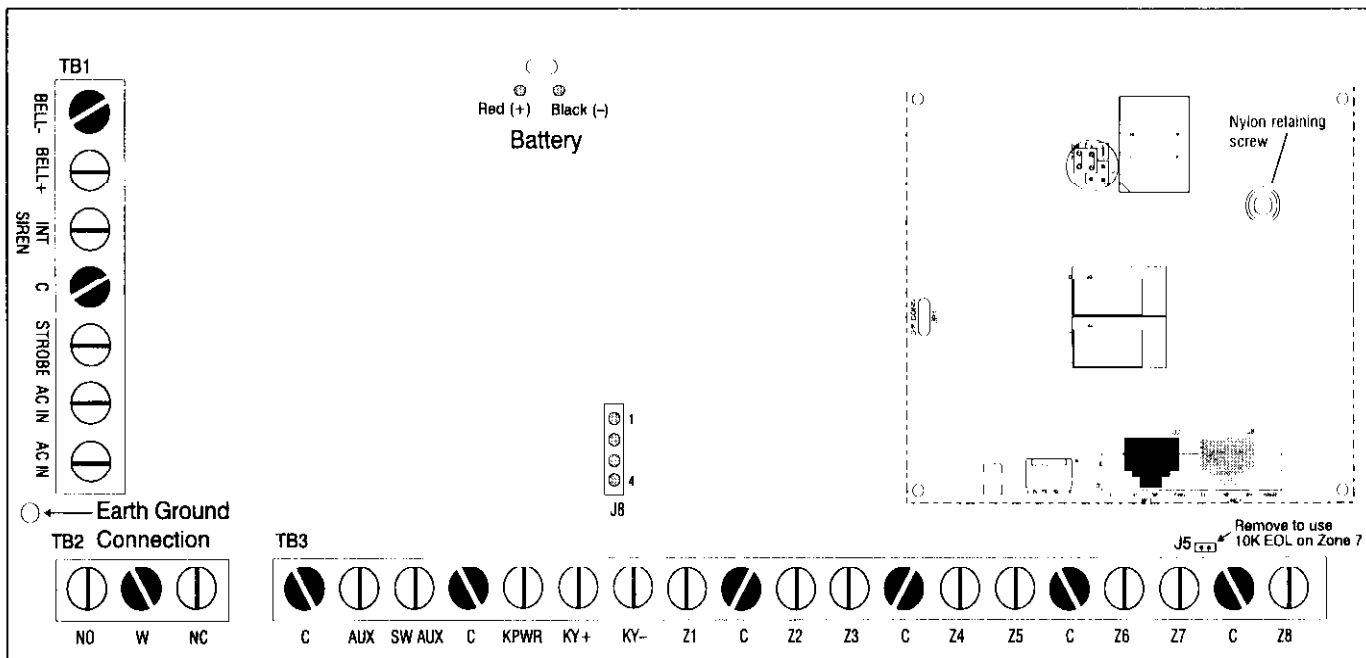

Figure 1
- Connect the earth ground wire (green with yellow stripe) to the board (see Figure 1) and cabinet. The earth ground wire will connect to the upper hinge when using the large enclosure and to the lower hinge on the small enclosure.
The Sierra S5832AU receives its power from a 16.5 VAC 40 VA transformer. Connect the transformer to the AC In terminals on TB1 of the PCB (see Figure 1), using 18 AWG (1.02 mm) wire. (Some systems may have the transformer and mains fuse block installed and pre-wired from the factory.)